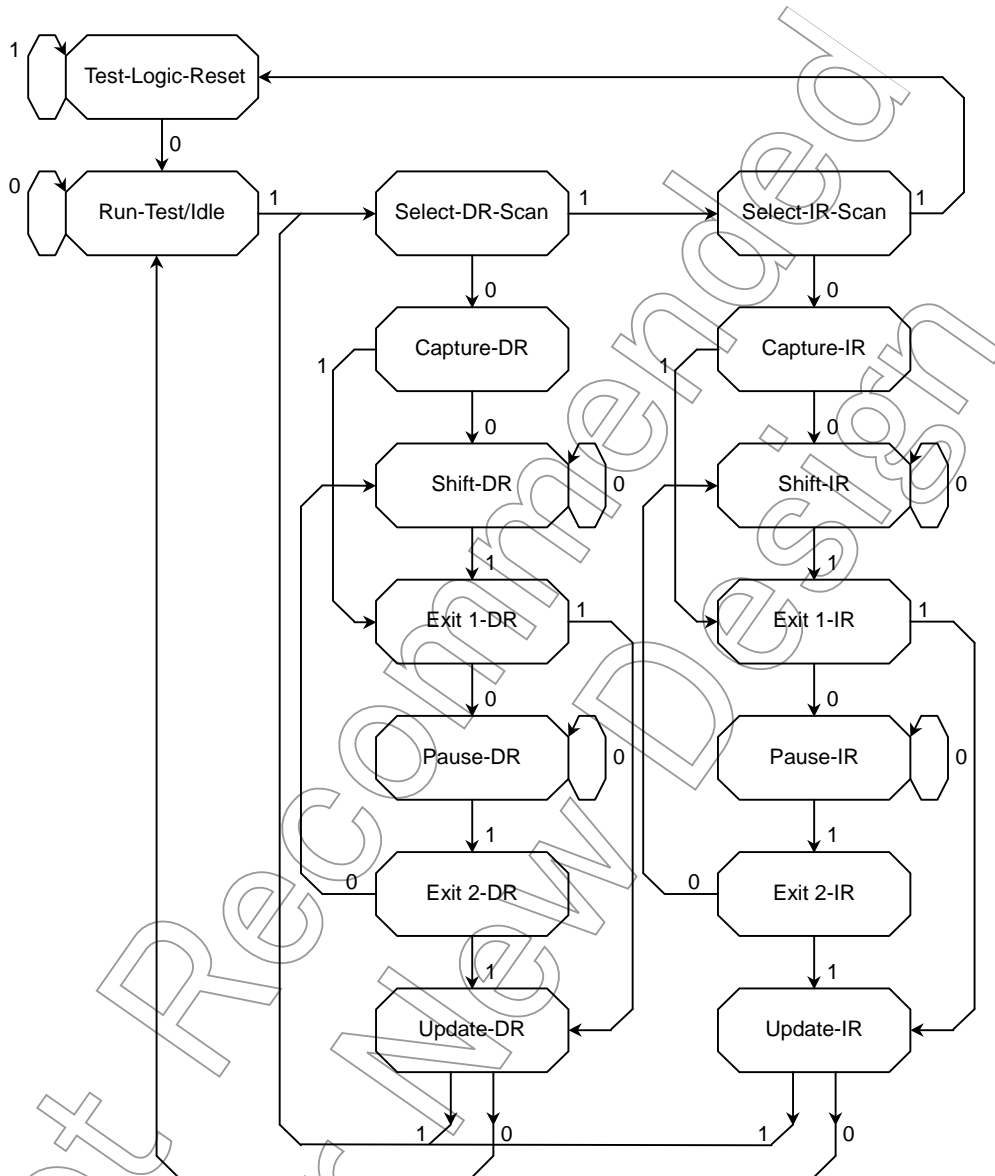

Figure 6.3.5 TAP Controller State Diagram
The state transition diagram of the TAP controller is shown in Figure6.3.5. Each arrow between states is labeled with a 1 or 0, indicating the logic value of TMS that must be set up before the rising edge of TCK to cause the transition.
The following paragraphs describe each of the controller states. The left vertical column in Figure6.3.5 is the data column, and the right vertical column is the instruction column. The data column and instruction column reference data register (DR) and instruction register (IR), respectively.